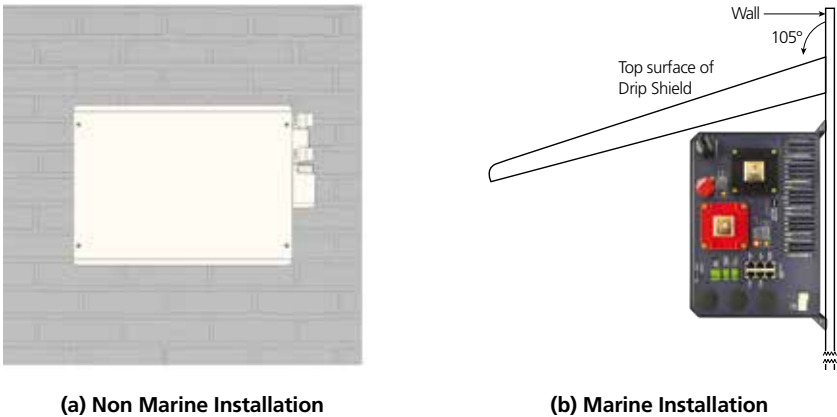

Fig 3.3 Mounting Arrangement 1: On Vertical Surface
- Mount horizontally on a vertical surface (like a wall) with the fan axis horizontal and the DC input terminals facing left. Please see Fig. 3.3.